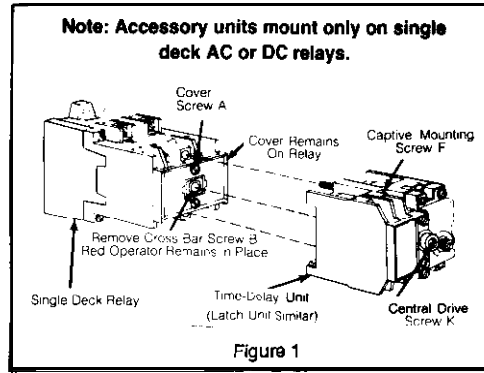

Figure 1
- 1.1 Remove and discard screw B from relay. Figure 1. **Do not remove red operator or cover.**